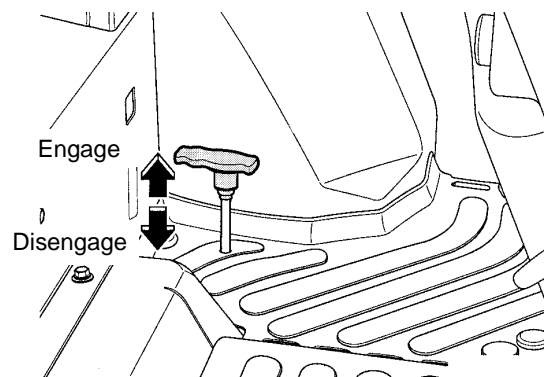

Figure 15
- To engage the front wheel drive mechanism, depress the clutch pedal and pull the front wheel drive lever upward. See Figure 15.